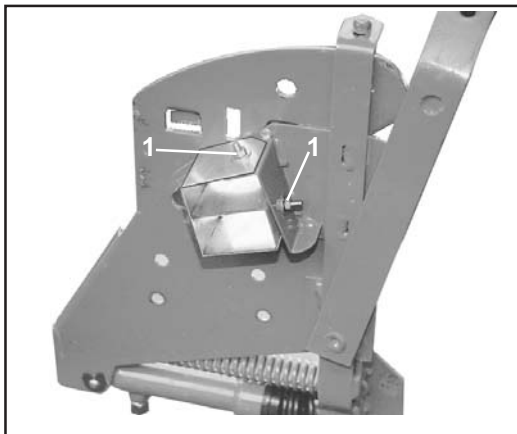

Fig. 10.25
- Mark 2 holes, drill 9 mm diam. holes and bolt the special guide plate to the standard guide plate by flat head bolts M 6 (Fig. 10.25/1).